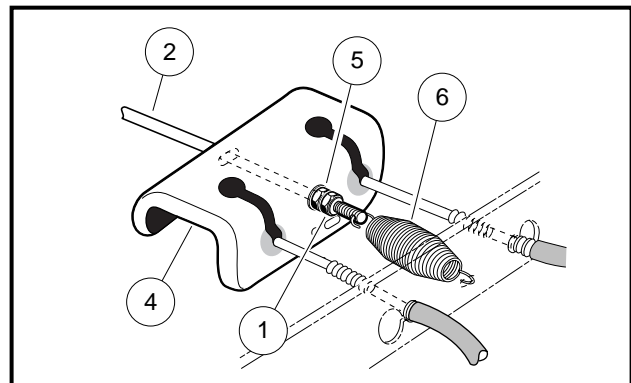

Figure 6-29 Adjust Rear Equalizer
- 2.2. Tighten the jam nut (5) on the rear equalizer rod (2) clockwise to 35 in-lb (4 N·m) (**Figure 6-29, Page 6-17**).
- 2.5. Hold the jam nut (5) on the rear equalizer rod (2) in place with a wrench and tighten the locknut (1) to 13 ft-lb (17.6 N·m) (**Figure 6-29, Page 6-17**).
- If the brake pedal return spring (6) was disconnected while equalizing the brake cables, be sure to reconnect it before proceeding (**Figure 6-29, Page 6-17**).